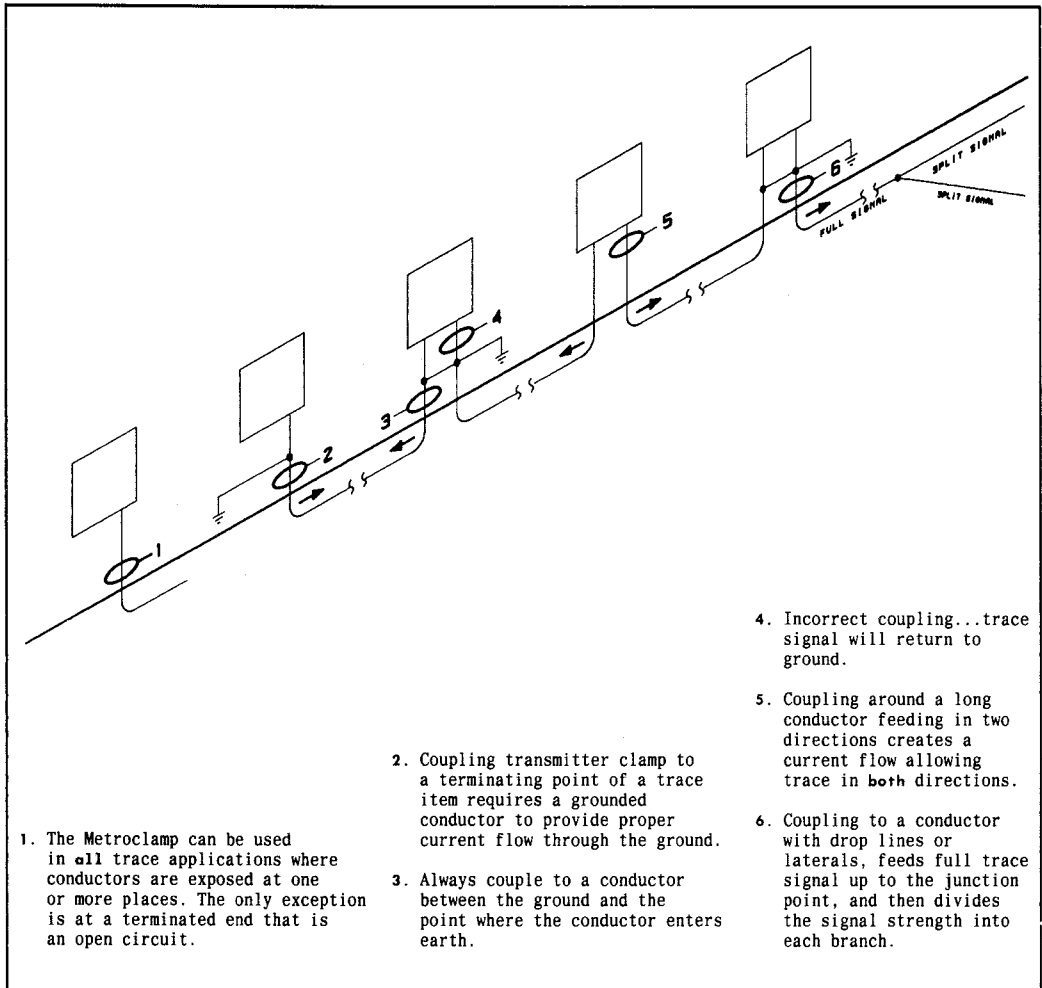

Fig. 11—Dual Clamp Operation
7.09 Locate the conductor by coupling the receiving clamp around each conductor to identify the one carrying the signal from the transmitter (Fig. 11).